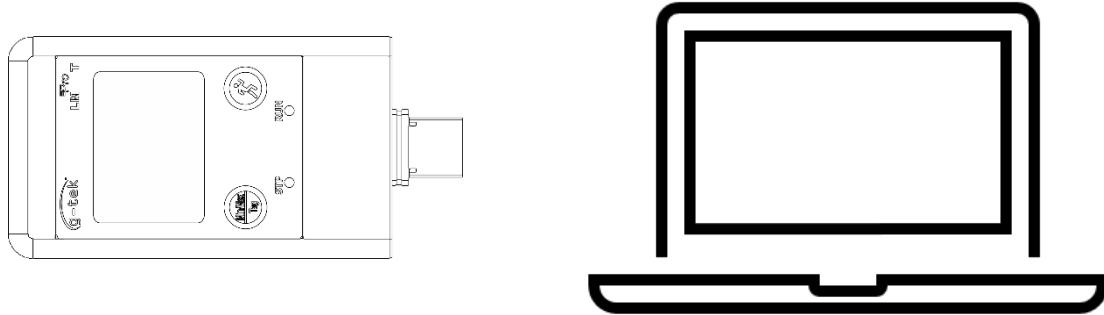

Figure 11 USB Type- A connection
- Connect the LMPro T data logger with Windows PC via the USB port, as shown in figure 11.